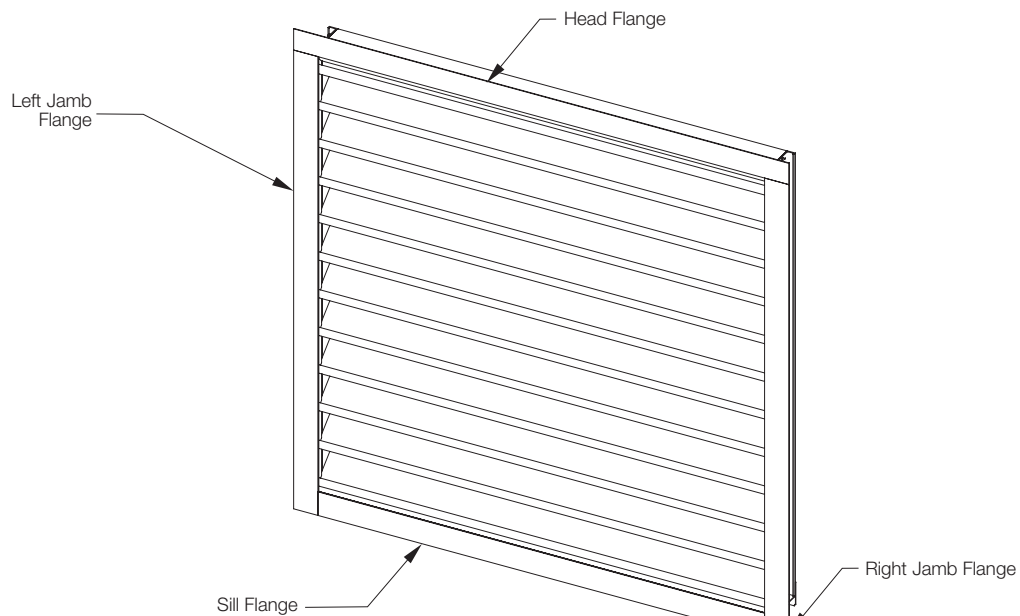

Figure 1.1
1. Dry fit flanges to louvers without VHB tape according to Figure 1.1 to ensure flanges are sized correctly before beginning installation and to note where each flange needs to be located.
12. Locate the left jamb flange so that the bottom of the flange is flush with the bottom of the sill flange as shown in figure 1.1 and press firmly onto the jamb. Repeat this process for the right jamb flange.